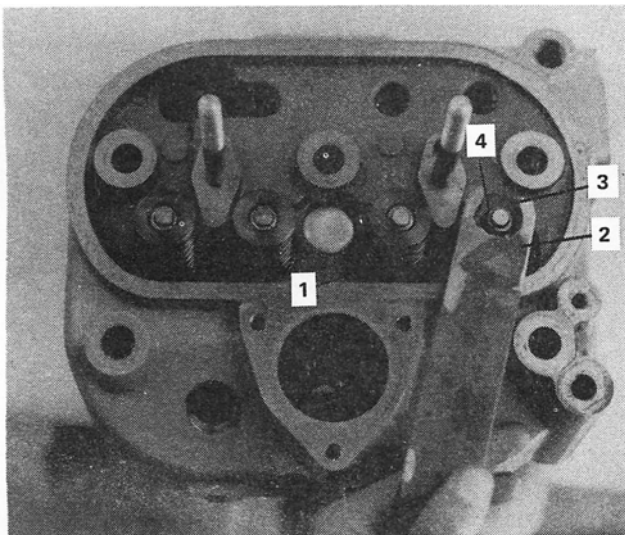

Figure 6
1. Position the valve spring compressor over the valve and spring as shown in Figure 6, and compress the spring. Remove the valve keeper, the valve spring retainer, the valve spring and valve.